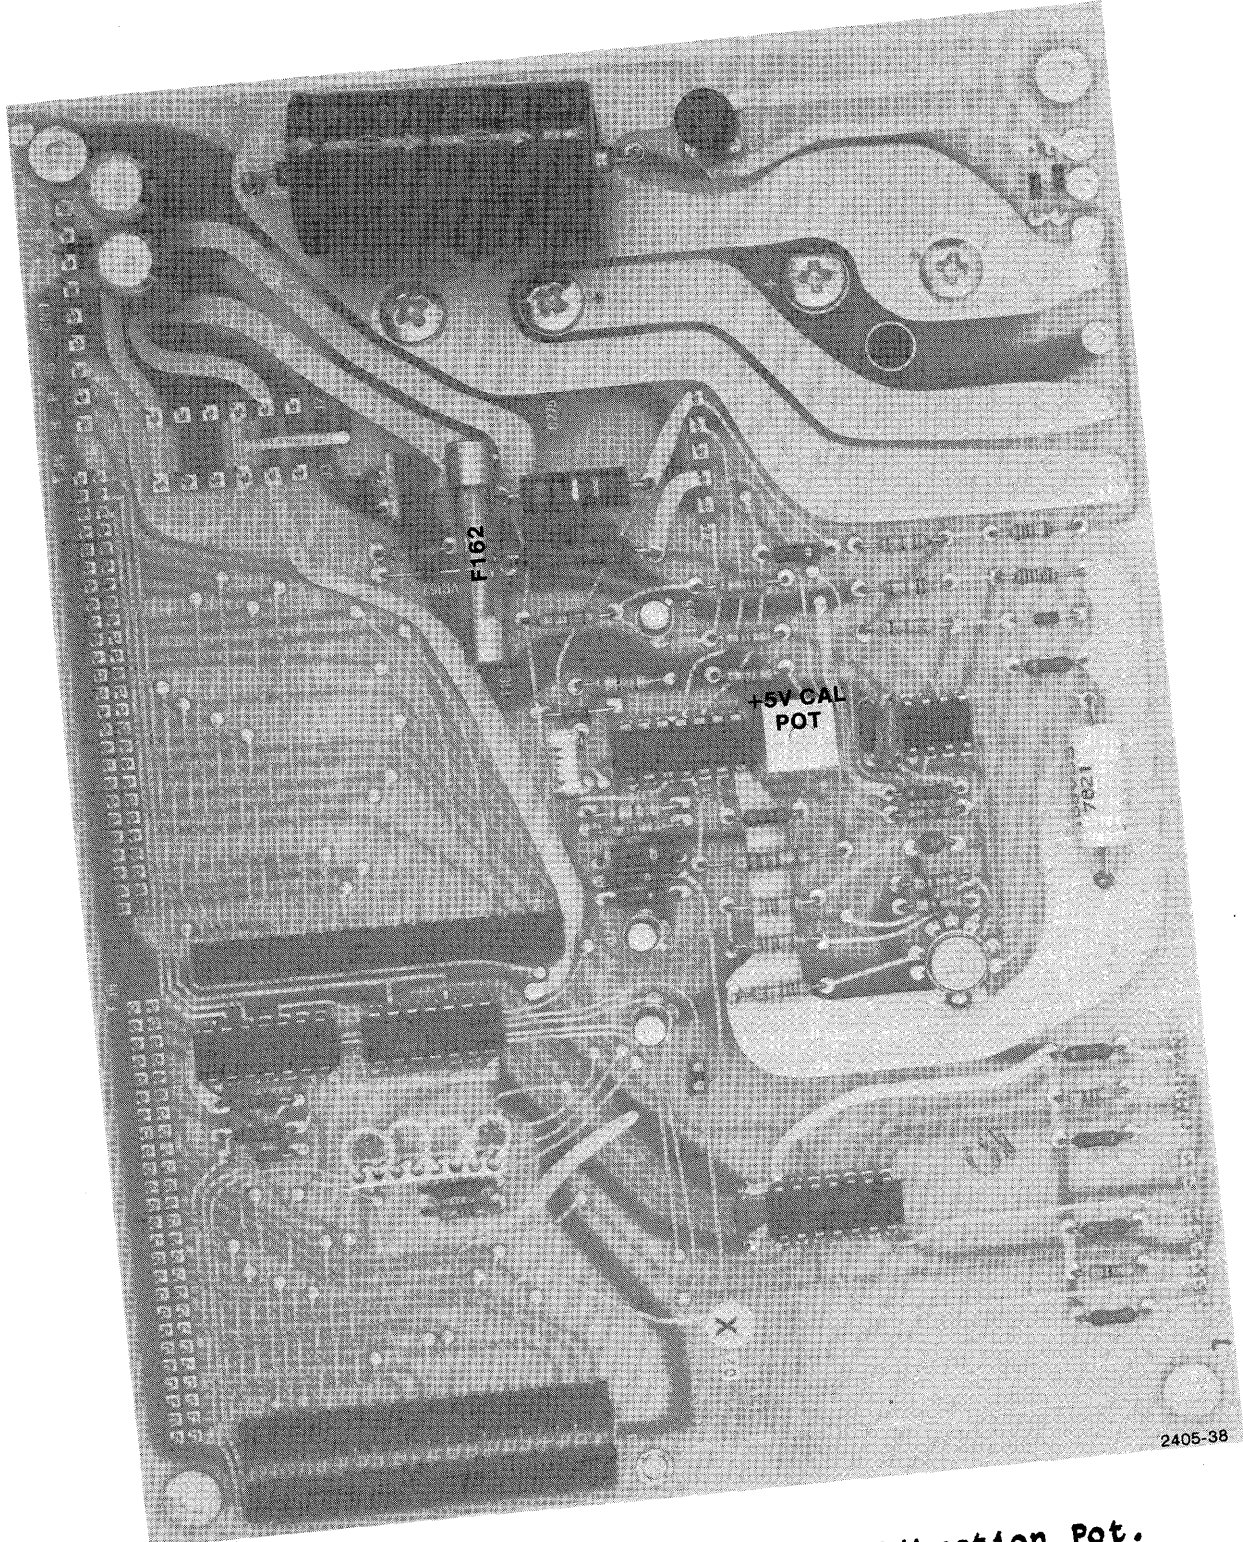

Figure 5-4. Power Supply Calibration Pot.
5. If necessary, adjust potentiometer R 350 (Figure 5-4) for +5.15 VDC \pm 10 mV.